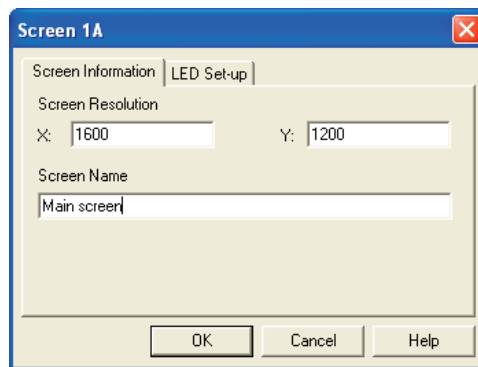

Figure 4-11. Defining the resolution of a screen and (optionally) a name
3. Double-click on each screen representation to set the screen resolution and, optionally, add a screen name and/or configure an LED indicator (if used). See Figure 4-11.